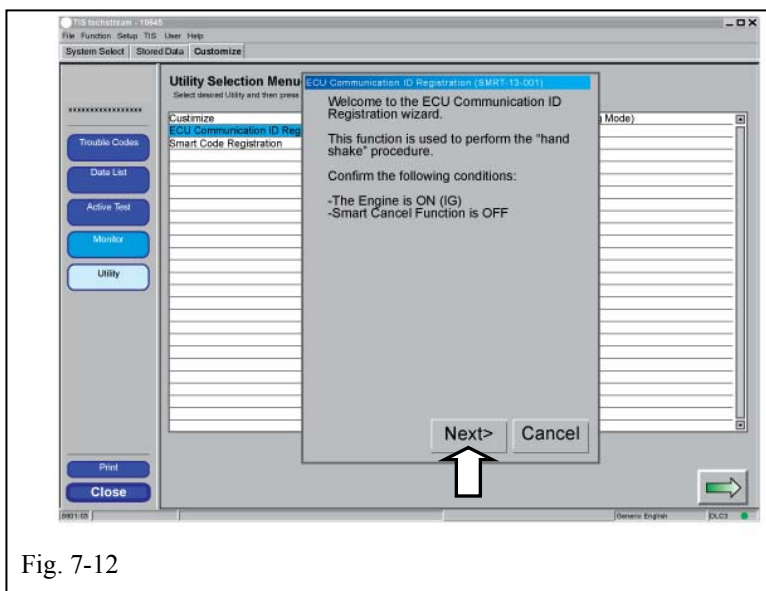

Fig. 7-12
- (x) Confirm that the Engine is ON (IG), and that the Smart Cancel Function is OFF. (Fig. 7-12)
- (y) Click “Next>” to continue. (Fig. 7-12)